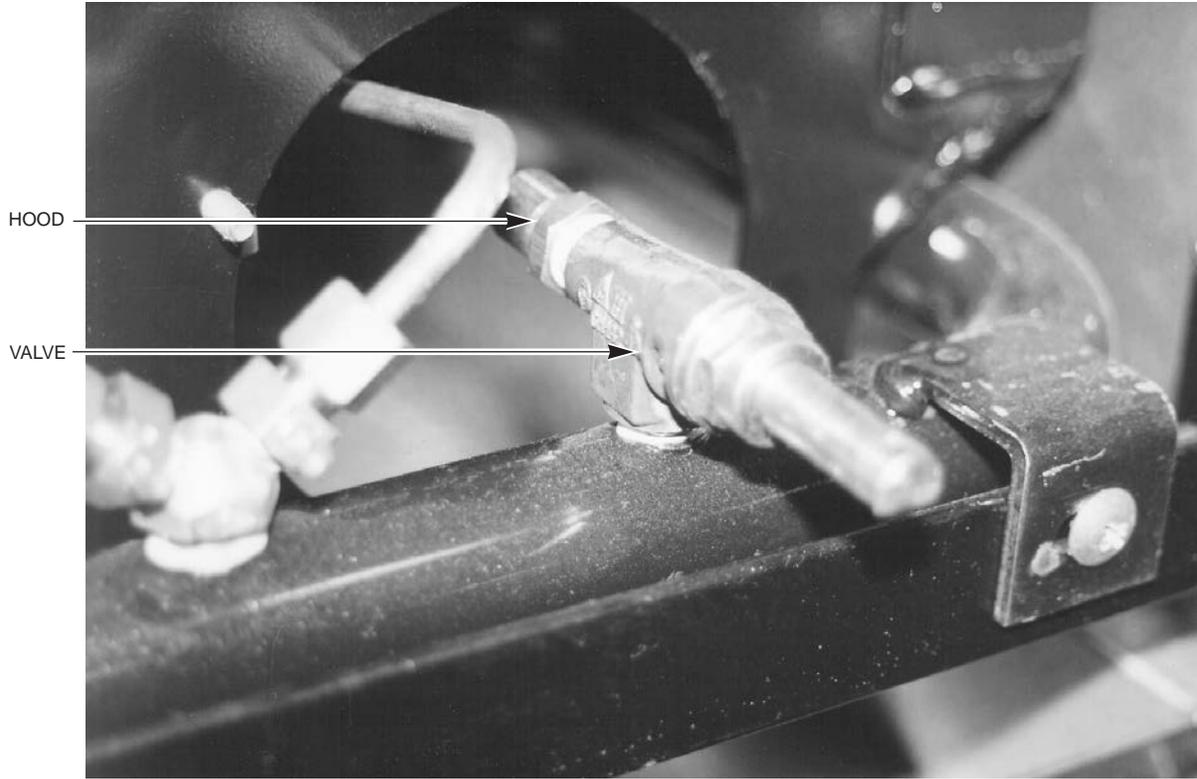

Fig. 11
3. With a pipe wrench, disconnect the burner valve from the manifold pipe. (Fig. 11)
4. If necessary with a 1/2" open end wrench remove the old burner valve hood and install it onto the replacement valve. (Fig. 11)